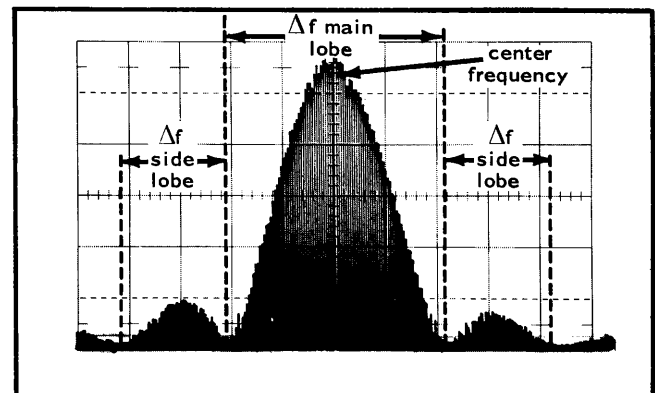
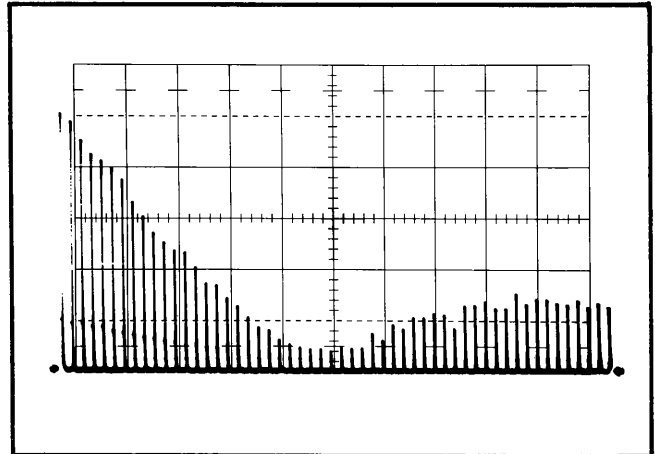

Fig. 2-8. Spectrum for a square RF pulse.
Fig. 2-10. $\times 5$ magnification applied to the display shown in Fig. 2-9.
1. Adjust the DISPERSION—COUPLED RESOLUTION control and the RF CENTER FREQ Control so that the main frequency lobe of the displayed signal is in the approximate center of the graticule and the side lobes of interest are visible. (See Fig. 2-8.)
5. The equivalent pulse width of the modulation signal can now be determined by measuring the frequency width (see Fig. 2-8) of either the main lobe (Δf_{main}) or a side lobe (Δf_{side}) as directed in Frequency Difference Measurements on page 2-8 and calculating for pulse width:
The spectrum analyzer can also be used to measure the repetition frequency of the pulsed signal. Note in Fig. 2-8 the frequency distribution for the pulsed signal is a series of vertical lines. Each line represents one sampling (interception) of a pulse during the sweep interval. Thus, at zero dispersion, the line spacing will correspond directly to the sweep time.
Fig. 2-10 shows an expanded display of the pulsed RF signal that was shown in Fig. 2-8. The spectrum is being examined in detail in the vicinity of one of the nulls.